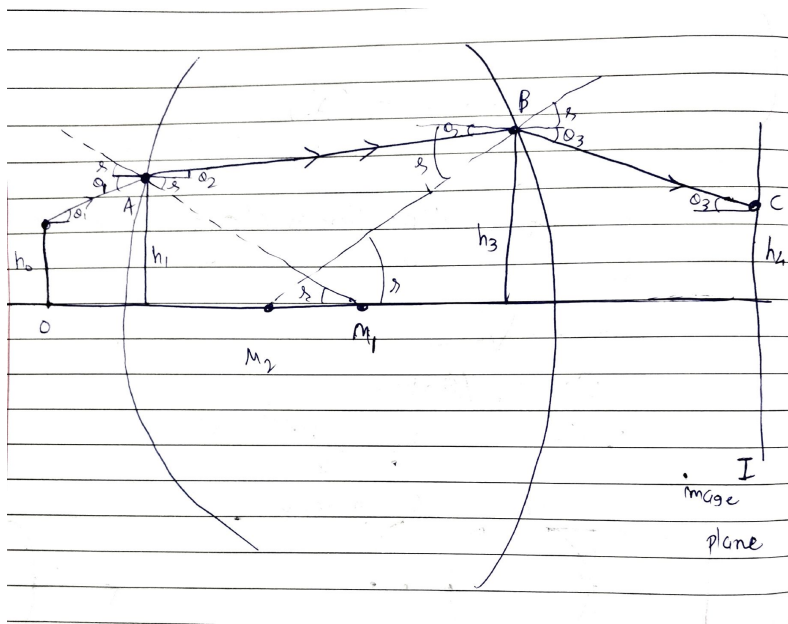
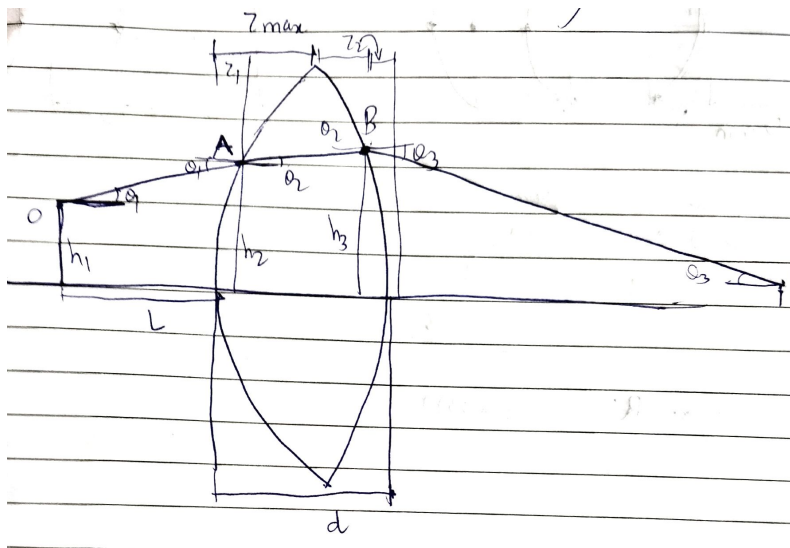

Figure 46: Convex lens
Figure 47: Notations of lens
**Geometry of the lens** I included simple geometry for convex lens with middle part of it. From the figure 46, the ray starts from point  $O$  and refracts from front surface of the convex lens. Suppose ray makes the angle  $\theta$  with horizontal line. From trigonometry of the figure, distance travelled by a ray between  $O$  and  $A$  would become,  $D_1 = L/\cos(\theta_1) + Z_1/\cos(\theta_1)$  Where  $L$  and  $Z_1$  are distance given in figure 47.  $Z_1$  is sag at that point on surface. Here the surface is spherical so sag of the surface would become,  $Z = \frac{h_1^2}{R + (R^2 + h_1^2)^{1/2}}$ .  $h$  is height of the point  $A$  on the surface. Both curved surface are assumed to be spherical therefore sag function is same for both surface.
After refraction at first surface, the ray will bend towards horizontal line. In the figure 46,  $AM_1$  is the line passing through center of the curves surface. The angle made by this  $AM_1$  is  $r$  and it is given by,  $\sin(r) = h_1/R$ .  $R$  is radius of the curved surface. Snell's law applies for only angle made with perpendicular to the surface. Here  $AM_1$  is perpendicular to the surface. So incident angle would become  $i = \theta_1 + r$  and angle after refraction become  $e = \theta_2 + r$ . From snell's law  $n_1 \cdot \sin(i) = n_2 \cdot \sin(e)$ , We can find the angle  $e$  and subtraction with angle  $r$  gives the angle with horizontal line which is basically  $\theta_2$ .  $n_1$  is refractive index of the air and  $n_2$  is refractive index of the medium which could be found by aforementioned methods to find refractive index for different wavelengths. To find the height at the surface,  $h_1 = h_0 + \tan(\theta_1)(L + Z_1)$ . Here  $Z_1$  is function of  $h_1$  which makes the equation with function of  $h_1$ . After solving the equation, it gives the value of  $h_1$ .
figure 46. On the opposite side of the lens, the surface has negative radius and line passing through center is  $BM_1$  in the figure 46. But here the surface has negative radius and its sag is defined by many ways, but here I defined from the vertex of the surface. Due to that, the function of sag would be same as  $Z_1$ . Here new quantity is  $Z_{1max}$  which is at the edge of the surface. Semi-diameter of the surface is distance between optical axis and the edge of the surface.  $Z_{1max}$  is sag at the semi-diameter height.
The distance travelled by ray after refraction at surface two is given by  $D_3 = (I + Z_1) / \cos(\theta_3)$ .  $I$  is the image plane distance.  $Z_1$  would be different if the surface two is not spherical.  $h_3$  is the height at point  $B$  in figure 46. Final height of the object at image plane is  $h_4$ . So this is ray tracing method to find optical path difference and image formation. From optical path difference, we can find the phase difference of the wave.